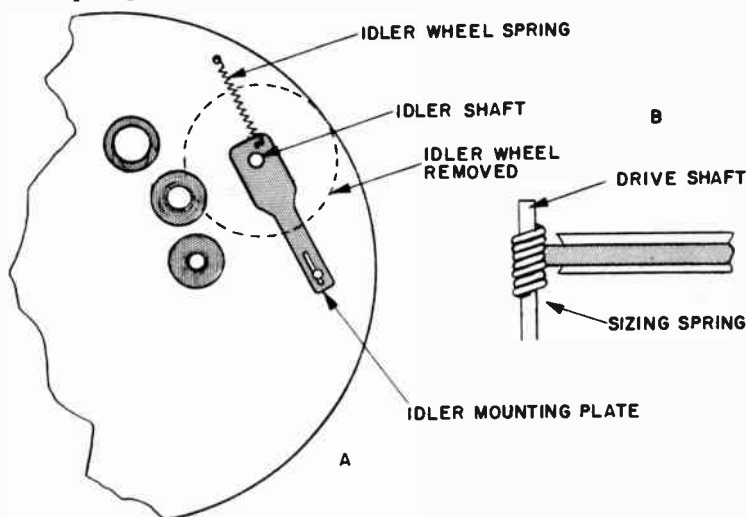

Fig. 317-a,b. *Idler-wheel spring and motor-drive shaft spring. Springs that lose their tension should be replaced.*
4. The idler wheel spring is easily taken off after the idler wheel is removed. As part a of Fig. 317 shows, each end of the
Slowness is also caused if wrong-size parts are mistakenly put in the drive assembly. An important point to remember is that some manufacturers use a coil type spring attachment on the motor drive shaft to increase its effective diameter. This is shown in part b of Fig. 317. If this spring is missing, the drive shaft diameter will be too small and the turntable will rotate too slowly.
Another important factor that determines good drive coupling is the pressure of the idler wheel between the drive wheel and the turntable. The spring (part a of Fig. 317) holds the idler wheel firmly in position. If this spring loses its tension, the idler wheel will couple loosely and slip. When this happens, change the spring. Some service technicians cut this spring to make it shorter so that it will have more tension. When a spring starts losing its tension, however, it gets progressively worse. Making it shorter is only a temporary repair; change it.